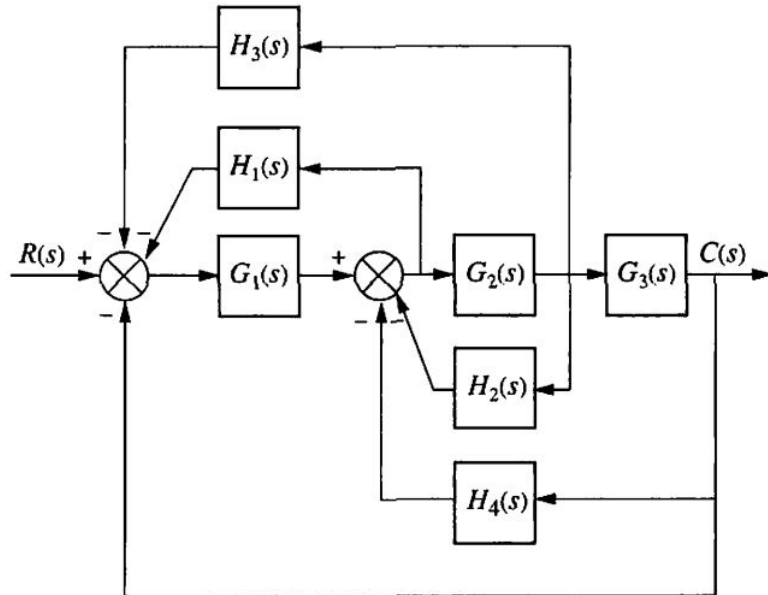

Figure 4: Block Diagram representation of a System
4. Consider the block diagram representation given in the Figure 4;
- (a) Reduce the block diagram shown in Figure 4 to a single block representing the transfer function, $T(s) = \frac{C(s)}{R(s)}$.